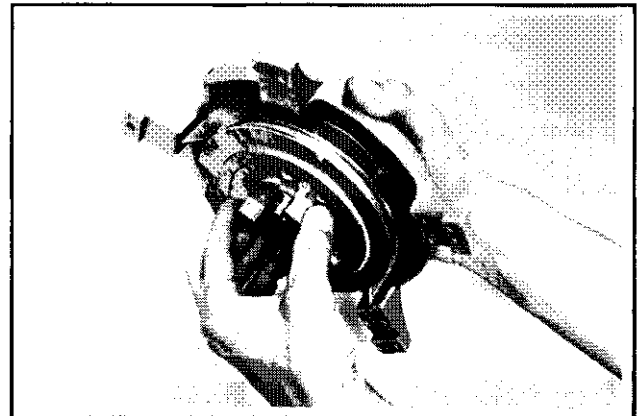

Figure 7-14. Removing Pulley From Housing.
14. Rotate the pulley slightly from side to side and **carefully** separate the pulley from the starter housing. Refer to Figure 7-14.